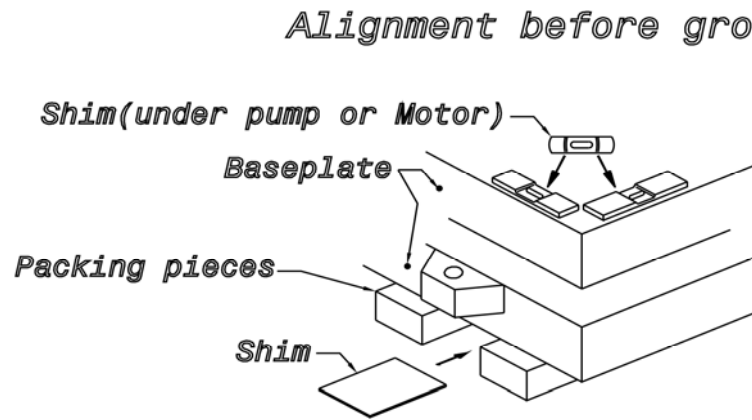

Fig 2-2. With the pump and driver correctly aligned, the grout can be poured
2.5 Leveling is achieved by using packing Pieces and shims fitted either side of the Foundation bolts before pouring the grouts see fig 2-2 It is also allow to use jack bolt.